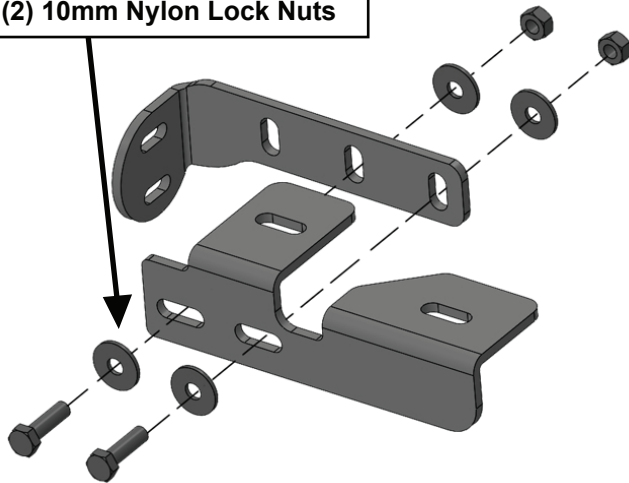

Fig 7
With assistance, line up the Tube Mounting Brackets on the Tyger Guard with the outside of the Frame Brackets. Attach the Tyger Guard to the Frame Brackets with the included (4) 10mm Hex Bolts, (8) 10mm Flat Washers and (4) 10mm Nylon Lock Nuts, (Figs 7- 8). Do not tighten hardware.
(2) 10mm Hex Bolts
(4) 10mm Flat Washers